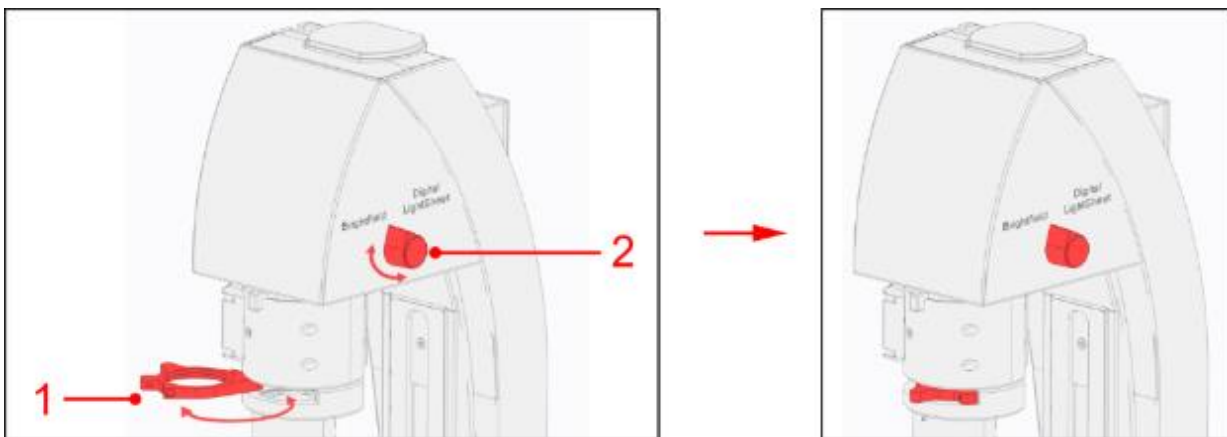

Figure 97: Adjusting BF components
5. Swing in the BF lens (Figure 97, position 1).
6. Turn the knob to the brightfield position (Figure 97, position 2).